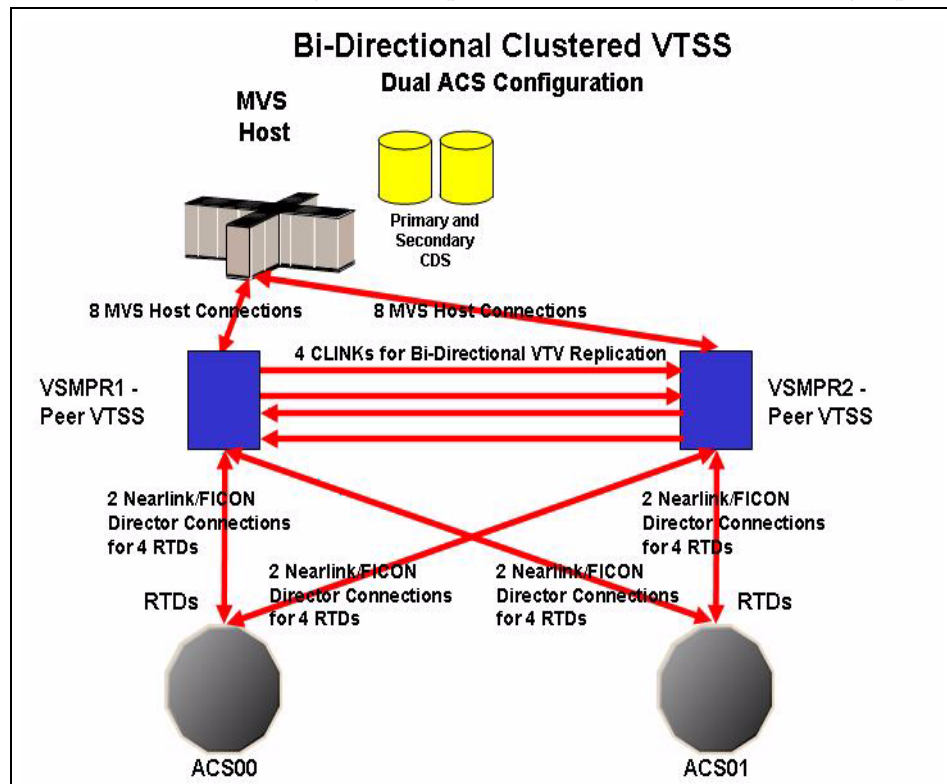

FIGURE 8-3 Bi-Directional Cluster attached to a Dual ACS
- *Bi-Directional Clusters*, which consist of two *Peer VTSSs* connected by one or more cluster links (CLINKs). FIGURE 8-3 shows a Bi-Directional Cluster attached to a single ACS. The CONFIG CLUSTER statement defines the Cluster, and the CONFIG CLINK statement(s) this Cluster as Bi-Directional.
FIGURE 8-3 shows a Peer-to-Peer VTSS Cluster cross-connected to two ACSs for increased redundancy (for example, for enhanced Disaster Recovery capability).